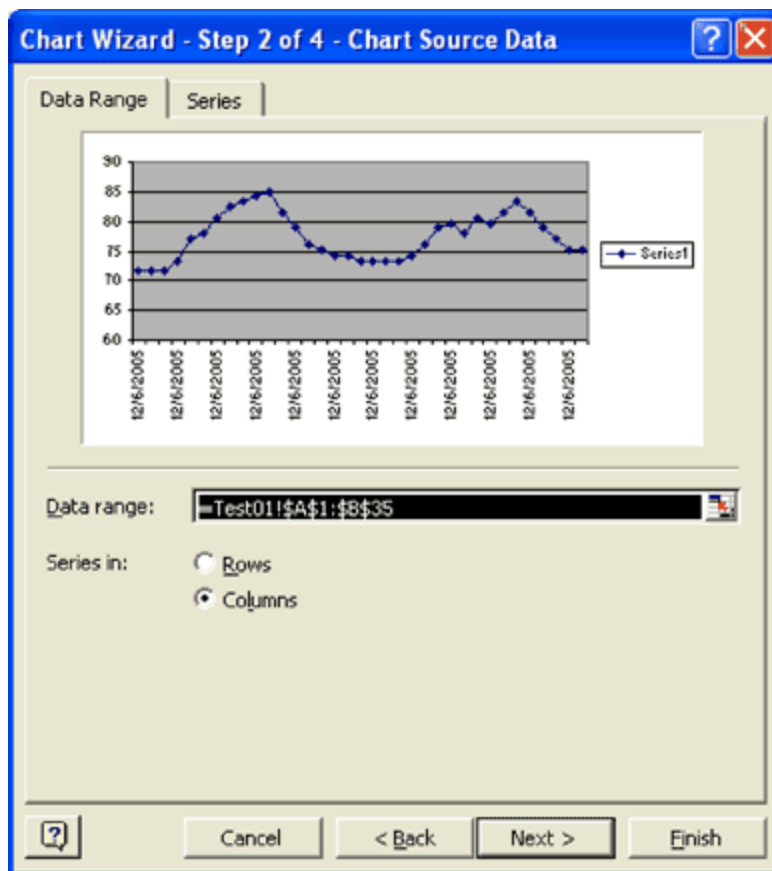

Figure 13. A sample view of the chart lets you preview and check your data.
5. A sample of the graph will be shown. This allows the data range to be checked and set (**Figure 13**).